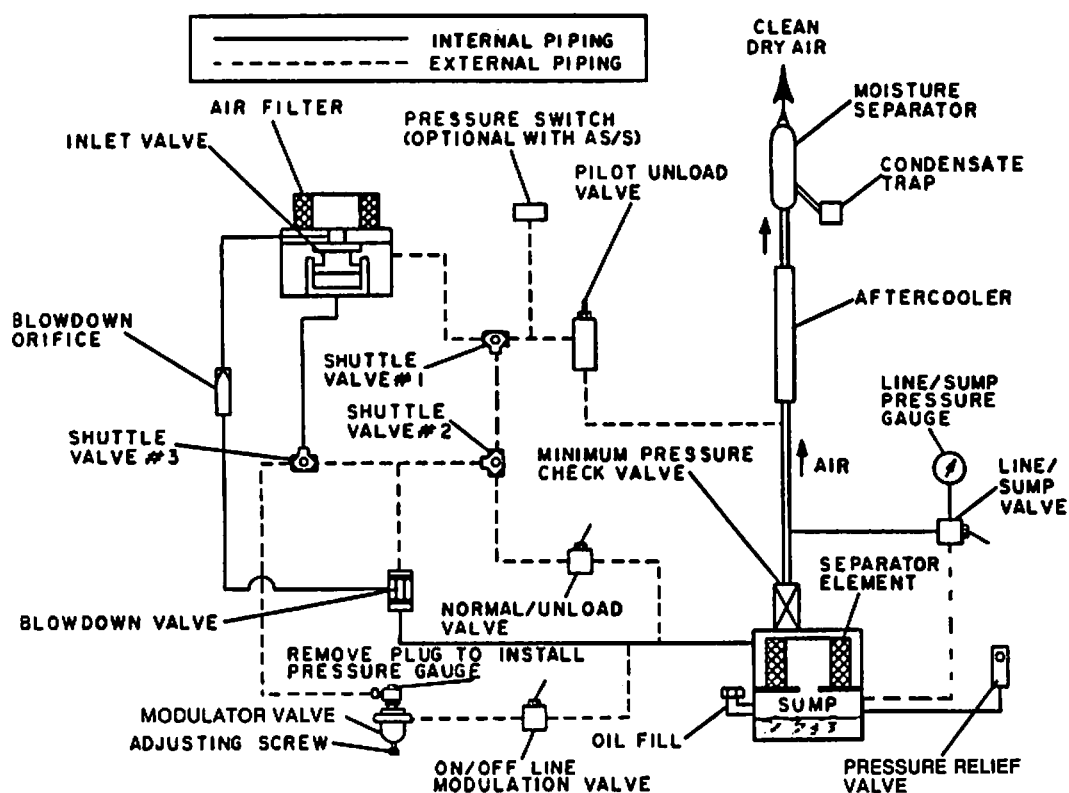

Figure 12
4. Loosen the adjustment screw locknut and back out adjusting screw 3 turns. See Figure 12.